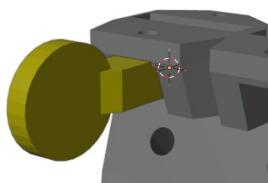

Figure 5.16: Nut insertion and holding tool
3. Secure the nut with the provided insertion tool (figure 5.16)